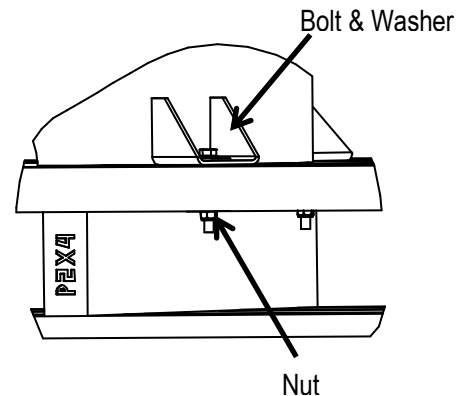

Figure 7
2. Unbolt the compressor feet by removing the bolts, washers and nuts. Discard them after removal. (Figure 7)